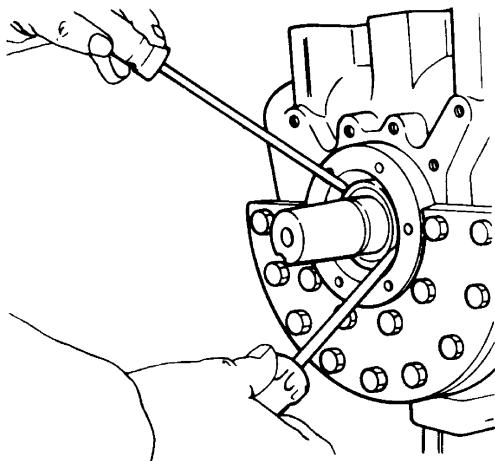

Figure 3-9. Shaft Seal Removal
2. Tap seal end of crankshaft to loosen seal grip on shaft. Using two long screwdrivers, pry out the shaft seal but do not damage gasket surface. (See Figure 3-9)